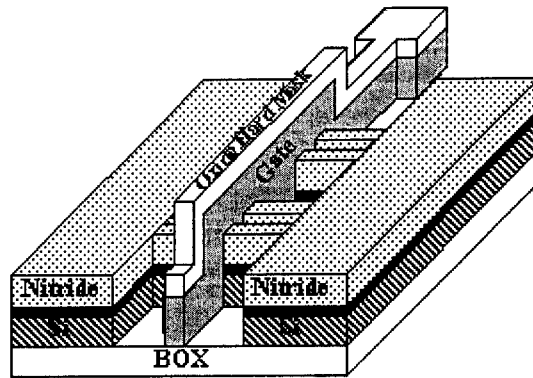

Figure 3.1: A 3-D view of a planar finFET
- e) In Figure 3.1, a 3-D sketch of a planar finFET is shown.